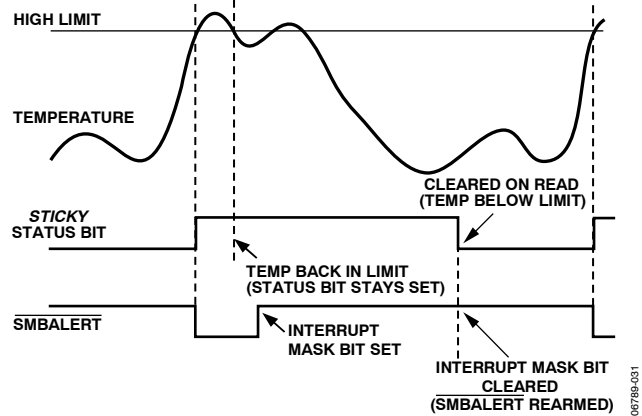

Figure 32. How Masking the Interrupt Source Affects SMBALERT Output
7. Periodically poll the status registers. If the interrupt status bit has cleared, reset the corresponding interrupt mask bit to 0. This causes the SMBALERT output and status bits to behave as shown in Figure 32.
The interrupt mask registers allow individual interrupt sources to be masked out to prevent SMBALERT interrupts. Note that masking an interrupt source prevents only the SMBALERT output from being asserted; the appropriate status bit is set normally (see Figure 32). Full details of the status and mask